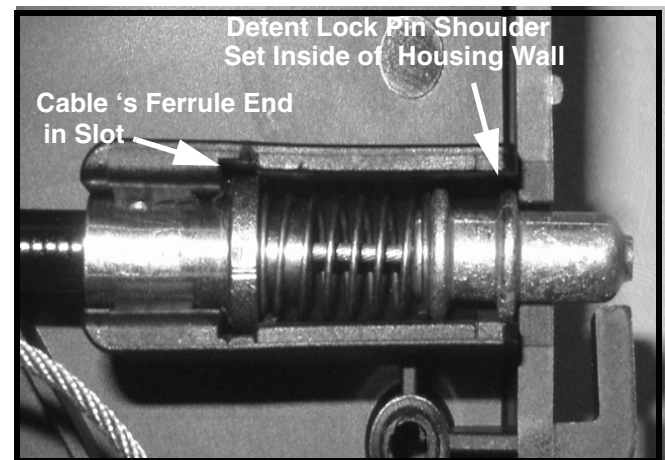

FIGURE 9
22. Ensure that the detent lock pin is set properly into the retaining slot as shown in Figure 9.